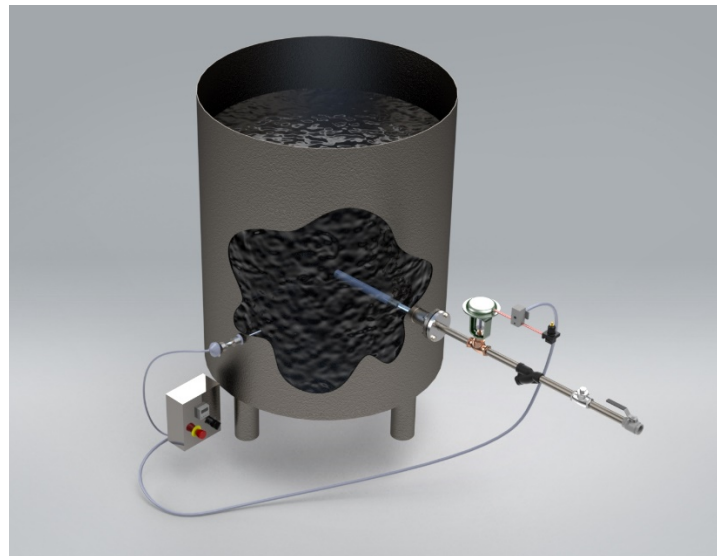

Figure 2: Injecting steam directly into the hot water tank with a tank jet sparger can be a simple and economical approach.
**Tank Jet Sparger** - Injecting steam directly into the hot water tank with a tank jet sparger (see figure 2) can be a simple and economical approach. Tanks are generally atmospheric, so low-pressure steam can be used. There are limitations to the sparger that you should consider as they may impact your process hot water heating needs.